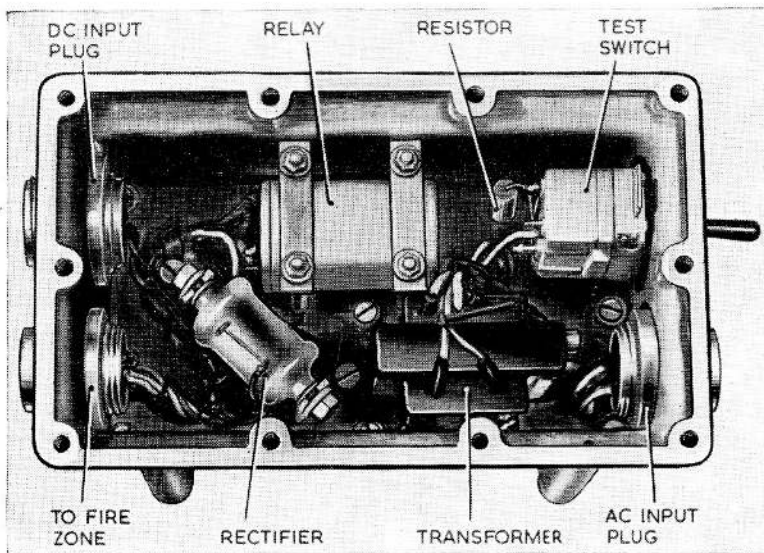

Fig. 2. Contents of relay box
2. The box shown in fig. 2, is a hermetically